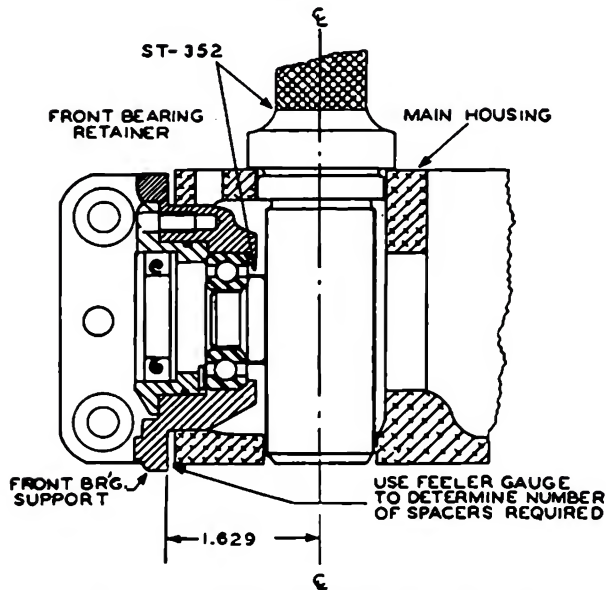

Fig. 5-317. Determining position of camshaft
8. Using the front bearing support and ST-352 assembly gauge, determine the amount of gaskets needed between the front bearing support and the main housing to set the camshaft in the proper position. ST-352 tools are used in place of actual parts to determine the correct position as shown in Fig. 5-315 and Fig. 5-317.